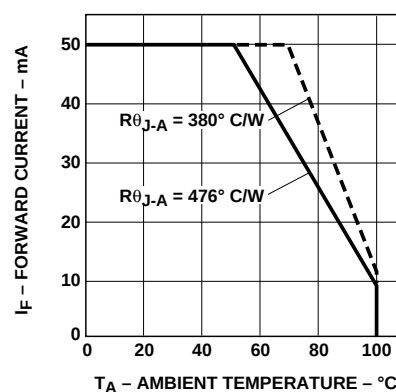

Figure 4. Maximum Forward Current vs. Ambient Temperature for HLMA-/HLMT-QL00/QH00/PL00/PH00. Derating Based on $T_{JMAX} = 110^\circ\text{C}$.
3. Derate linearly as shown in Figure 4.